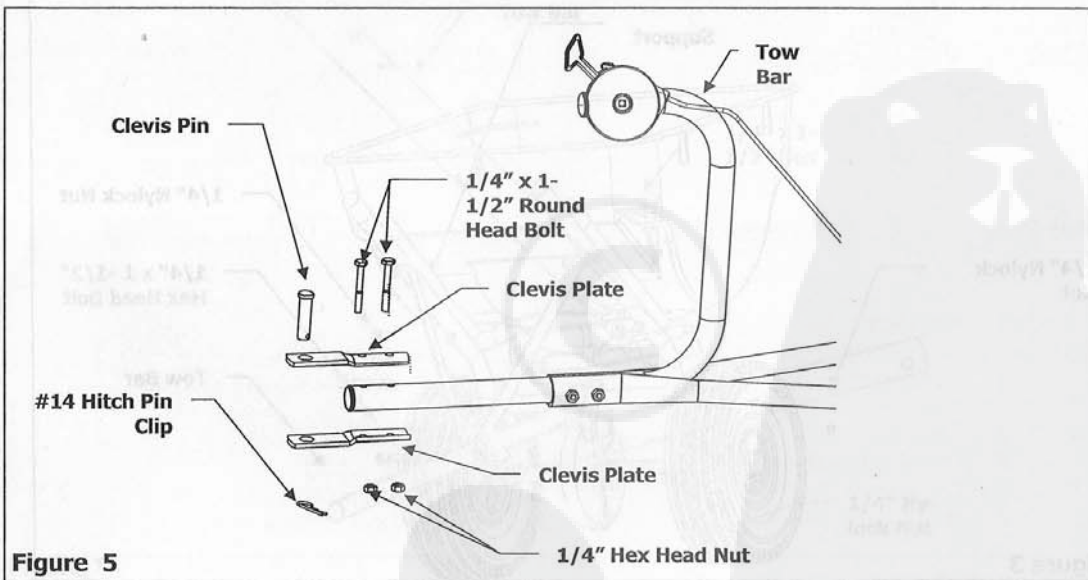

Figure 5
5. Attach the two Clevis Plates to both sides of the end of the Tow Bar using two 1/4" x 1-1/2" Hex Head Bolts and securing with two 1/4" Nylock Nuts. Place the Clevis Pin through the open hole of the Clevis Plates and secure with a #14 Hitch Pin Clip. Now tighten all nuts and bolts on the unit. See Figure 5.